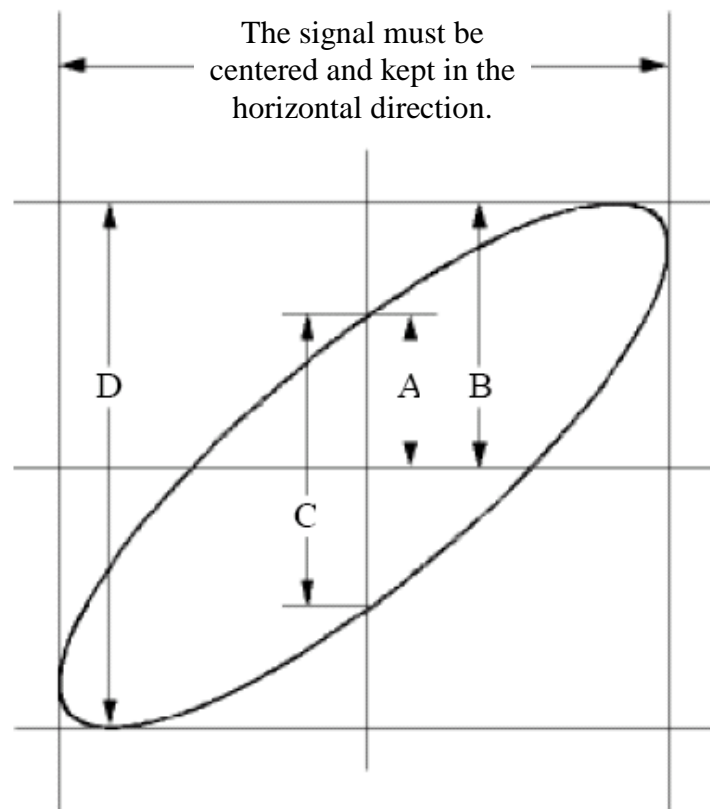

Figure 6-6 Lissajous Graph
- (1) Set the probe menu attenuation coefficient for **10X** and that of the switch in the probe for **10X** (see "How to Set the Probe Attenuation Coefficient" on P11).
- (2) Connect the probe of channel 1 to the input of the network and that of Channel 2 to the output of the network.
- (3) Push the CH1 to CH4 button to turn on CH1 and CH2, turn off CH3 and CH4.
- (4) Push the **Autoset** button, with the oscilloscope turning on the signals of the two channels and displaying them in the screen.
- (5) Push **CH1** button to select CH1, turn the lower knob, and then push **CH2** button to select CH2, turn the lower knob, making the amplitudes of two signals equal in the rough.
- (6) Click  to call up the menu panel. Click the **XY** softkey on panel to switch to the **ON** state. The oscilloscope will display the input and terminal characteristics of the network in the Lissajous graph form.
- (7) Turn the upper and lower knobs, optimizing the waveform.
- (8) With the elliptical oscillogram method adopted, observe and calculate the phase difference (see *Figure 6-6*).